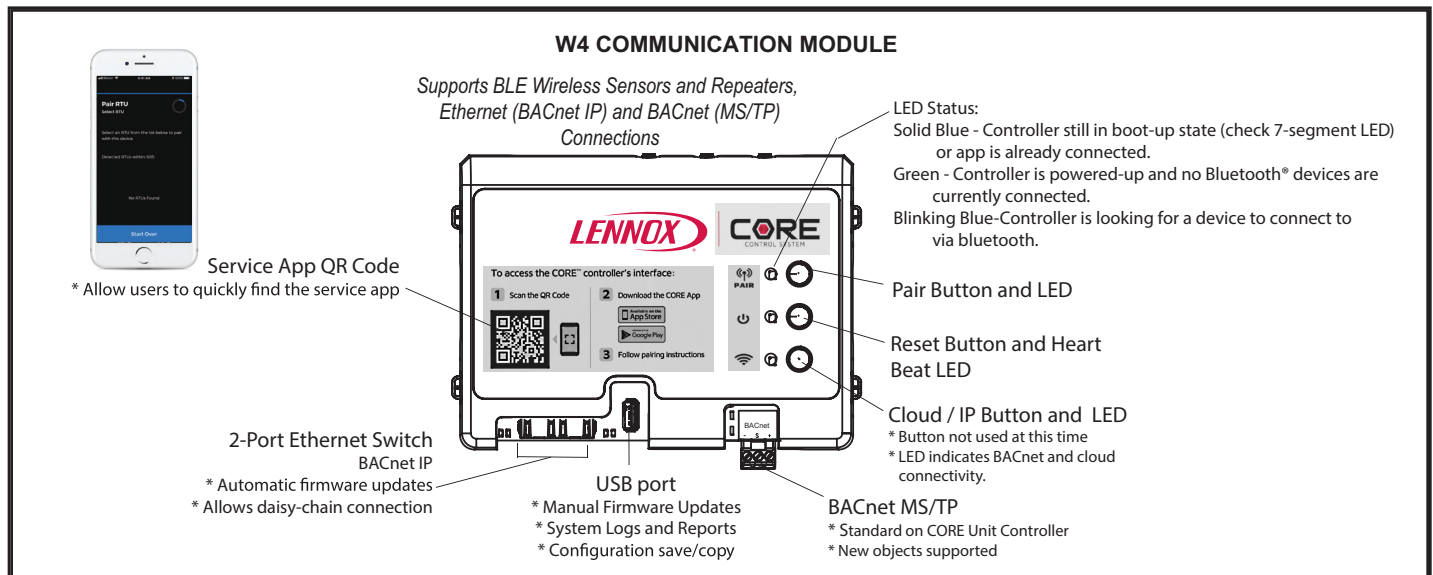

FIGURE 11
- 2 - Press and hold the pair button for five seconds. See FIGURE 11.